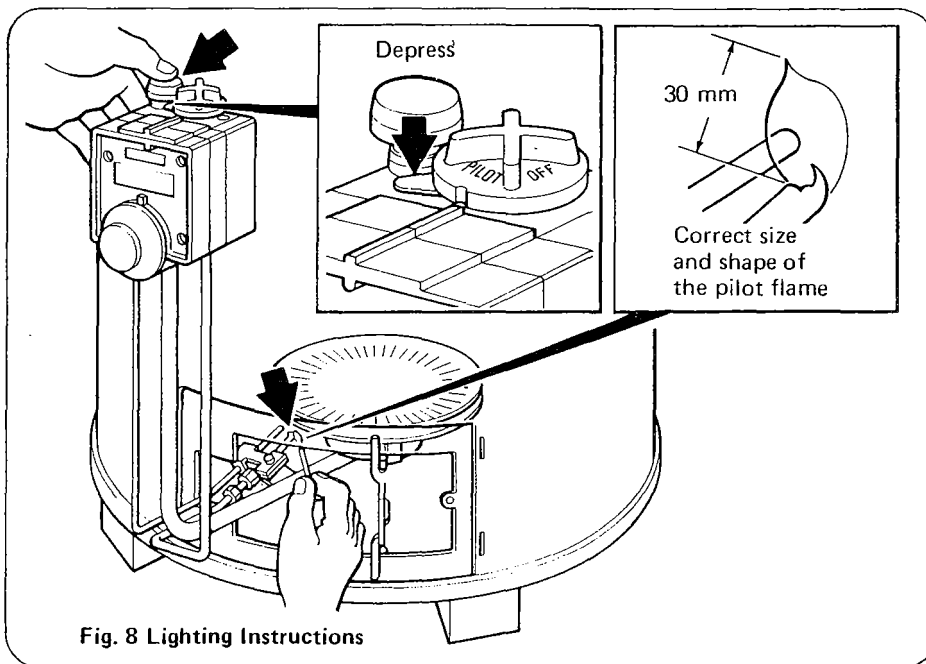

Fig. 8 Lighting Instructions
8. Allow 3 minutes for any unburnt gas to disperse and light the pilot flame, check that the flame is correct, see Fig. 8. Slide the inner door to the left (replace 62/75) and turn the control knob to 'ON', the main burner will light.